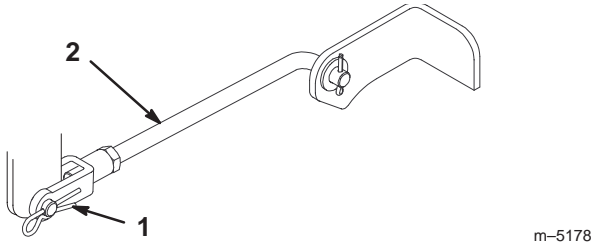

Figure 46
5. Remove the hairpin cotter and clevis pin from the front trunion yokes (Fig. 46).
8. Attach the front trunion rods to the tractor with the clevis pins and hairpin cotters (Fig. 46).